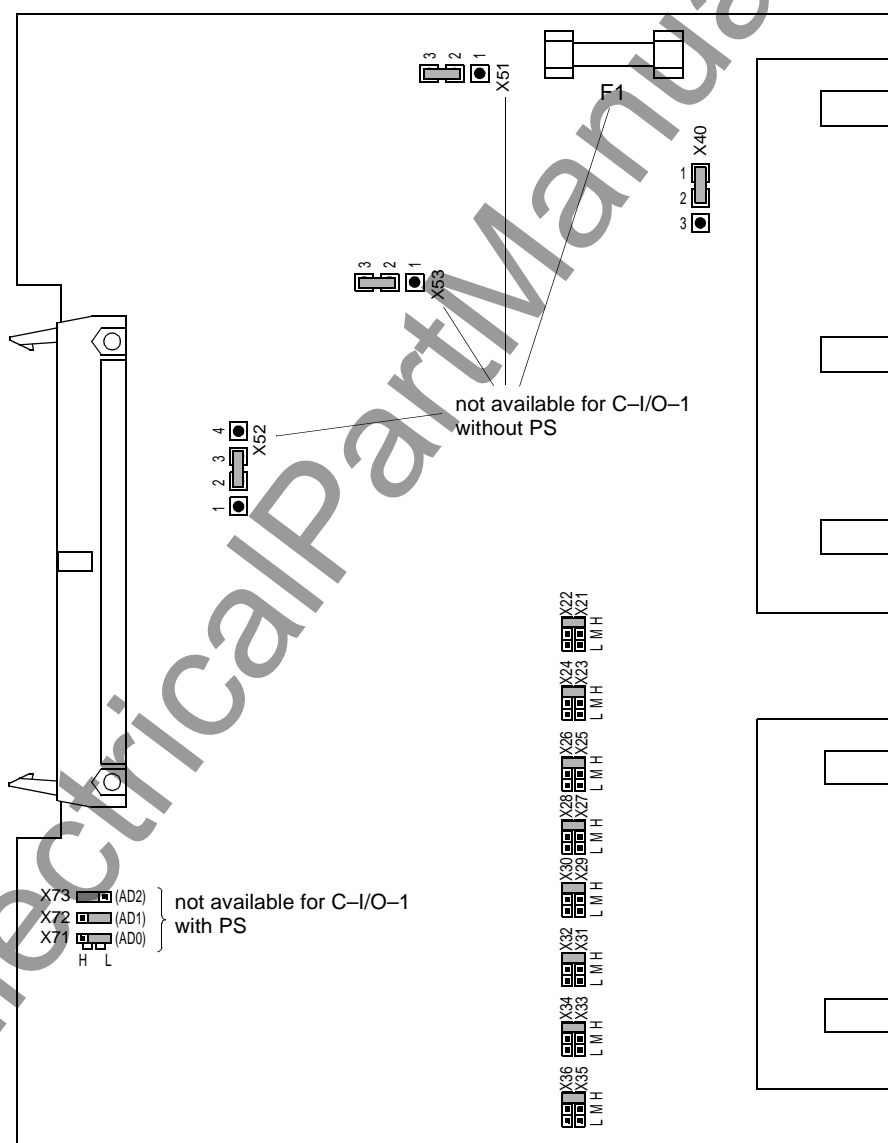

Figure 8-9 Input/output module C-I/O-1 with representation of the jumper settings required for the module configuration
- ☐ At one end, disconnect the ribbon-cable between the front cover and the CPU board C-CPU-1 (❶). To disconnect the cable, push up the top latch of the plug connector and push down the bottom latch of the plug connector. Carefully set aside the front cover.
- ☐ Disconnect the ribbon-cables between the CPU board C-CPU-1 (❶) and the I/O boards C-I/O-1 and C-I/O-2 (❷❸).
- ☐ Check the jumpers according to Figures 8-9 to 8-16 and to the following remarks. Change or remove the jumpers as necessary.
The layout of the printed circuit board for the input/output boards C-I/O-1 and C-I/O-10 is illustrated in Figure 8-9 and 8-10.